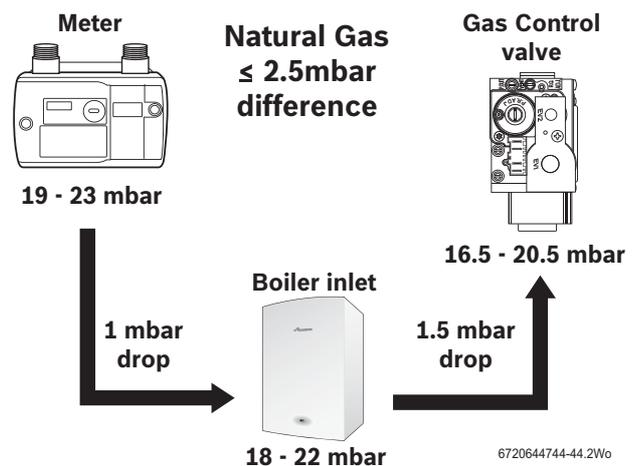
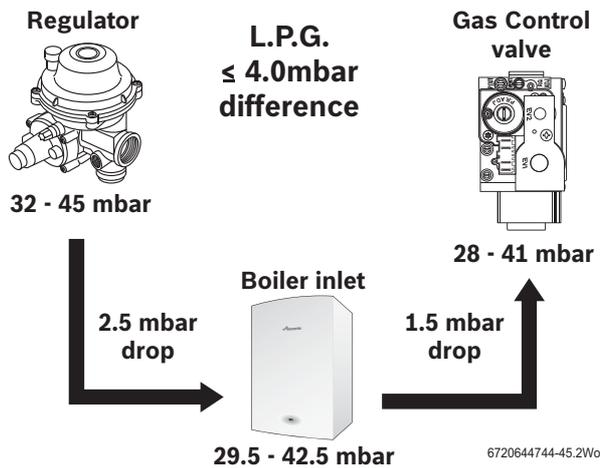

Fig. 61 Natural gas pressures
Fig. 62 L.P.G. pressures
- ▶ Check the gas supply working pressure at the gas valve conforms to values shown in Fig. 61 or Fig. 62.